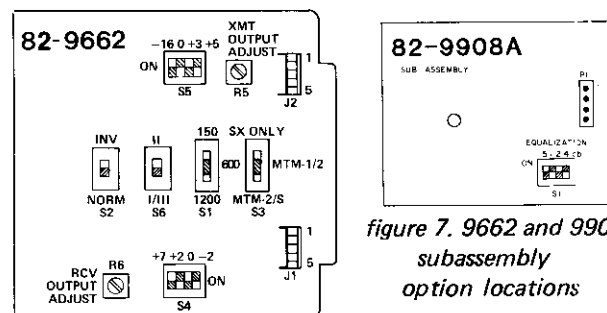

figure 7. 9662 and 9908A subassembly option locations
3.05 All options on the 9662 module are selected via slide switches or DIP switches located as shown in figure 7. Table 5 lists all options and indicates the option choices, which are explained in the following paragraphs. The 9662 should be completely optioned and its optioning checked before alignment is attempted.
E. Optional equalization (via the 9908A Equalizer subassembly): Determine the difference between the 1000Hz and 2804Hz tone levels measured in step A. Referring to table 5 and figure 7, set to *ON* the proper combination of switch positions on the receive channel 9908A subassembly's four-position DIP switch *S1* that adds up to this difference (i.e., the amount of equalization required).
G. Optional equalization (via the 9908A Equalizer subassembly): Refer to the CLR card for the specified transmit-channel output level (facility side) at 2804Hz. Referring to table 5 and figure 7, set to *ON* the proper combination of switch positions on the transmit channel 9908A subassembly's four-position DIP switch *S1* that adds up to the desired equalization at 2804Hz (re 1000Hz).